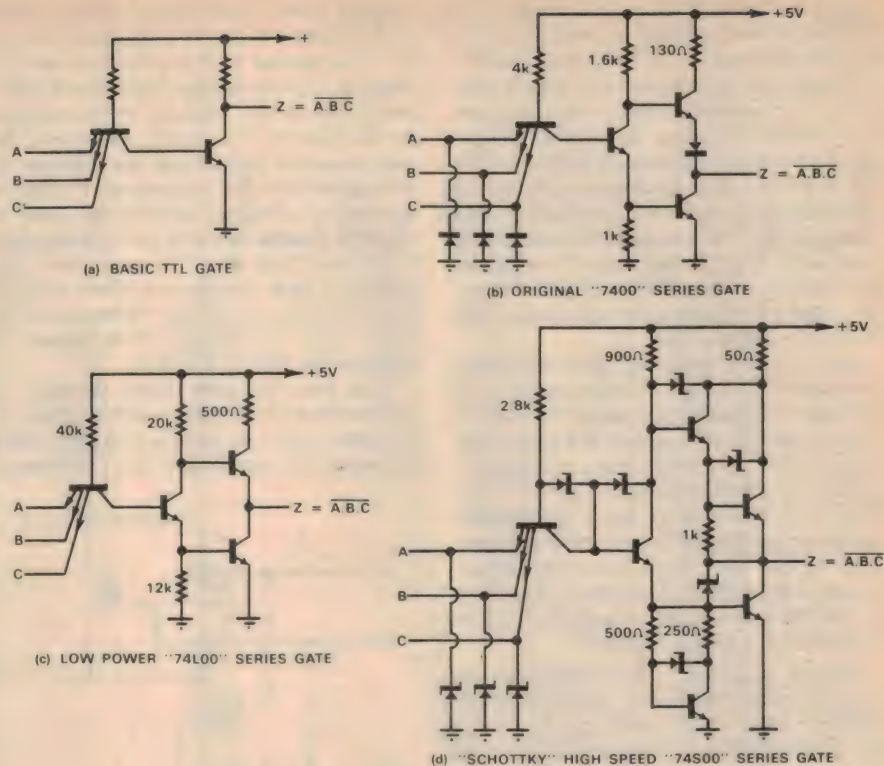

FIG. 2: VARIETIES OF TRANSISTOR-TRANSISTOR LOGIC (TTL)
The basic TTL gate is shown in Fig. 2(a). It is virtually a further development of the second diode logic gate shown in Fig.
Practical TTL gates are a little more complicated than this, with additional transistors and other components to increase operating speed and give improved reliability. The first practical TTL devices to appear were the well-known "54/74" series, originated by Texas Instruments. The basic circuit for a 7400 series gate is shown in Fig. 2(b). If you compare it with the basic gate, you will see that the main difference is the addition of a pair of "totem-pole" output transistors to increase the operating speed and the output current capability. Clamp diodes are also added to the inputs, to prevent damage to the multi-emitter transistor from negative-going transients.
named 74S00. Like the low-power series these were still based on the original TTL circuit, but here the various resistor values were made smaller to increase speed—at the expense of higher current. With 74S00 devices the transistors were also shunted with metal-semiconductor or "Schottky barrier" diodes as shown in Fig. 2(d), to prevent them from saturating. This obviated charge storage effects, and gave a further marked increase in speed.
"low-power TTL", or LPTTL, with the series designation 74L00. These were based on the same circuit configuration as standard TTL, but with the resistor values increased to reduce the current levels as shown in Fig. 2(c). This also reduced speed, but in many low power applications this was not important.
A basic CMOS gate which performs the NOR function if the high voltage level is regarded as logic true (1) is shown in Fig. 2(b), for you to compare with the gate just described. As you might expect from logic, it is basically a mirror image of the first gate, with the series and parallel pairing reversed.